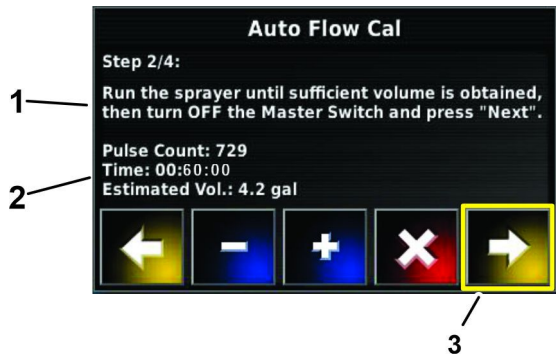

Figure 171
- On the control console in step 2 of 4 in the auto flow calibration wizard, when the time counter reaches 60-seconds (Figure 171)—set the
7. In step 2 of 4 in the auto flow calibration wizard, press the next icon (Figure 171).